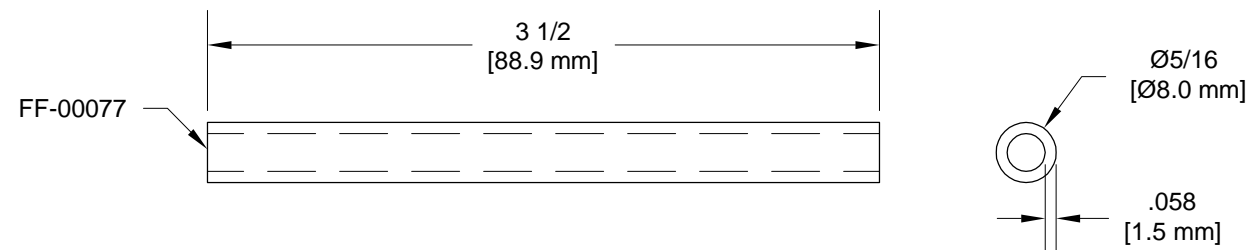

FIGURE 2: FABRICATE OIL COOLER SPACERS
Step 2: Fabricate four FF-00077 Oil Cooler Spacers from AT6-058X5/16 Tube. See Figure 2.